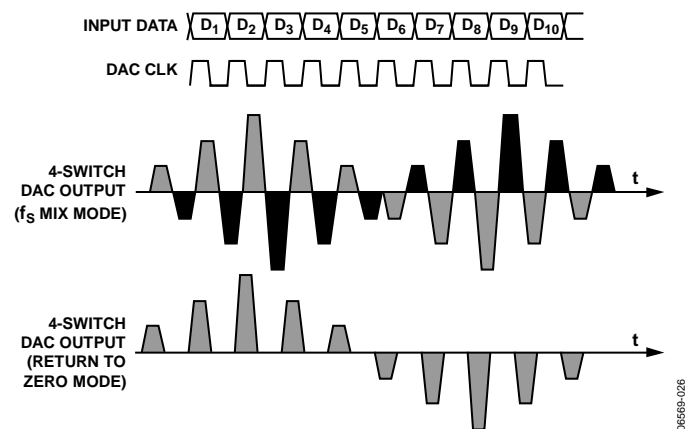

Figure 34. Mix Mode and RZ Mode DAC Waveforms
The quad-switch architecture also supports two additional modes of operation; mix mode and return-to-zero (RZ) mode. Figure 34 shows the waveforms of these two modes. In mix mode, the output is inverted every other half clock cycle. This effectively chops the DAC output at the sample rate. This chopping has the